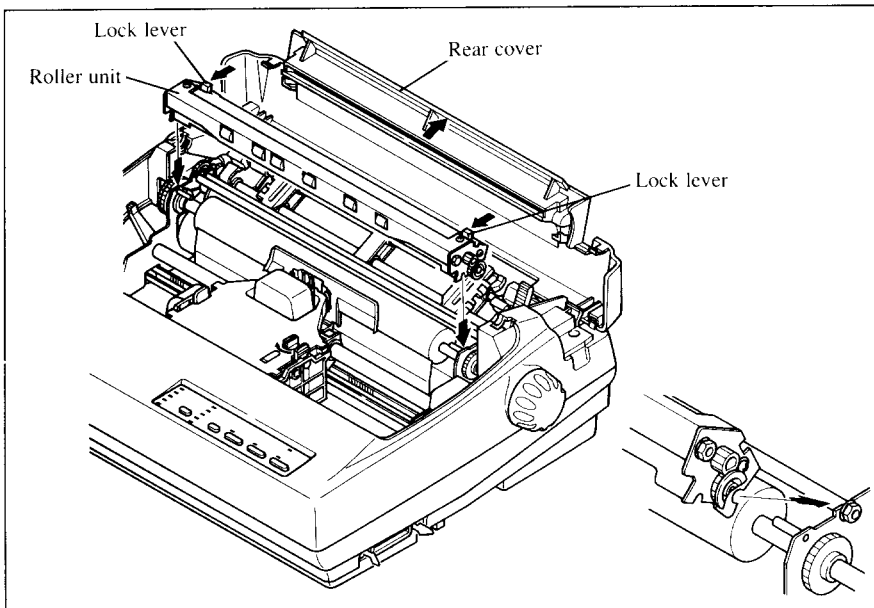

Figure 1-7. Install the roller unit onto the printer
7. Secure the roller unit firmly by lowering into position, as shown in Figure 1-7.